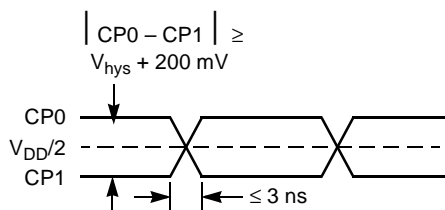

Figure 1. Receiver Input Waveform
- Receiver input, $V_D = V_{CP0} - V_{CP1}$, at least 200 mV greater than hysteresis levels. See Figure 1.